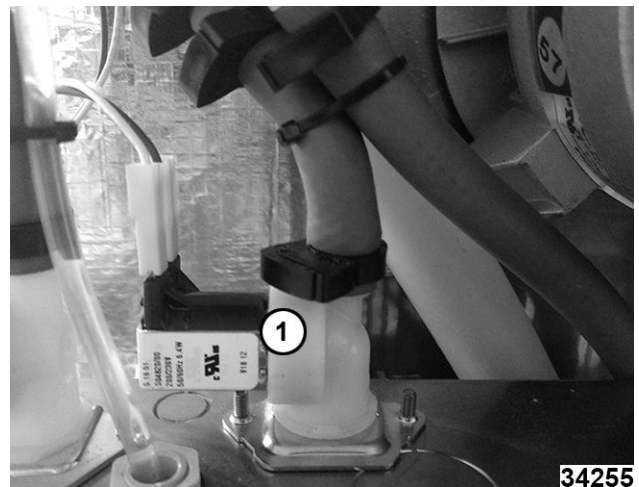

Fig. 56
4. Disconnect facility unfiltered water supply from solenoid valve Yc (1, Fig. 56).